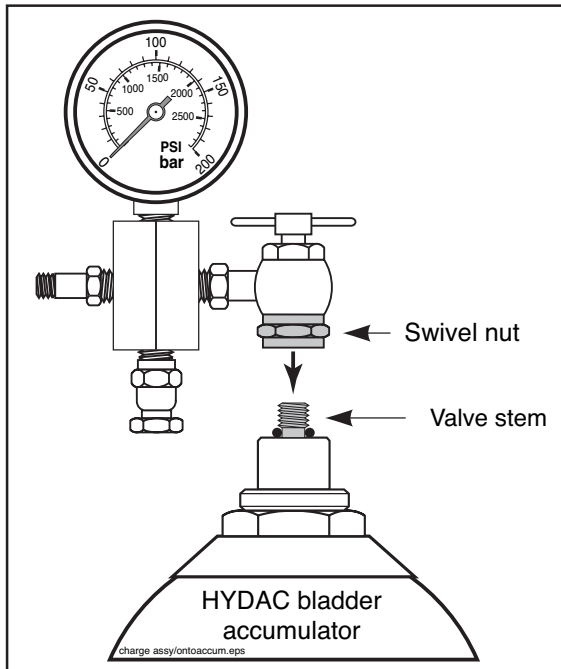

Figure 41
7. Find the swivel nut (Figure 41) on the charge valve assembly. Screw the swivel nut onto the accumulator gas valve. Tighten to 10–15 in./lb.